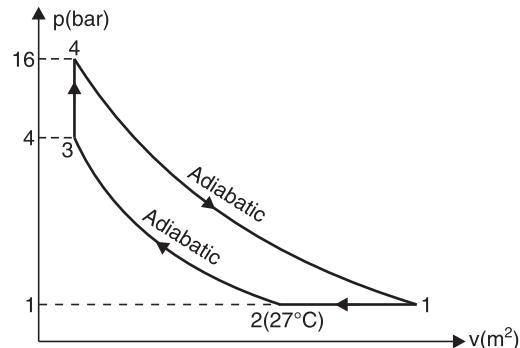

Fig. 4.31
**Solution.** Refer to Fig. 4.31.